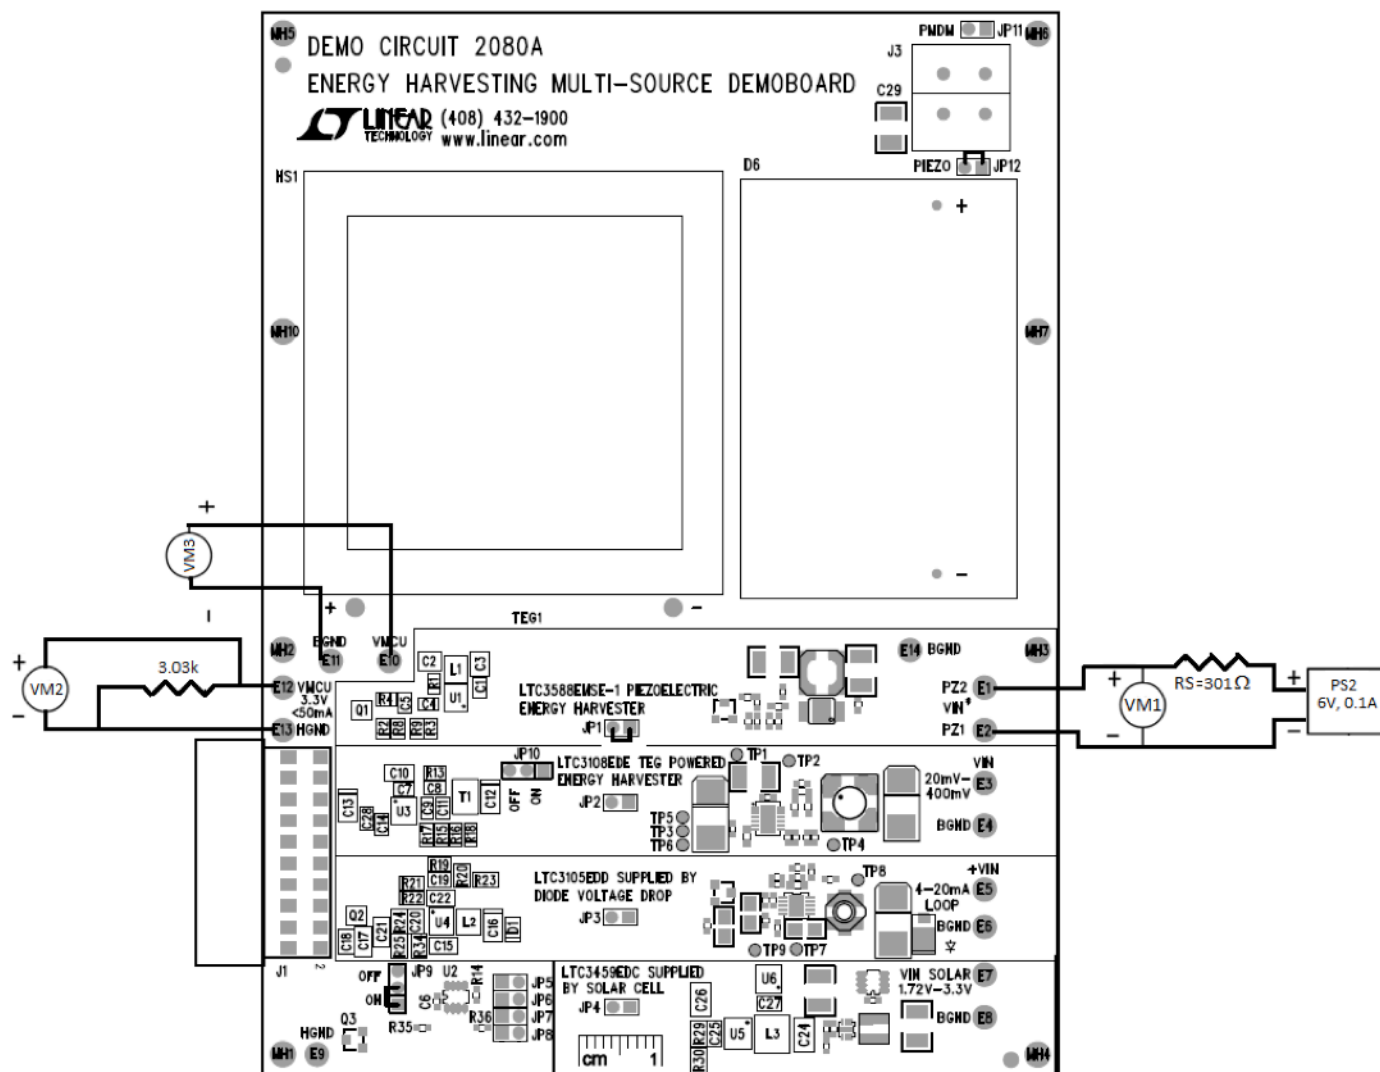

Figure 3. Piezoelectric Circuitry Test Setup. Proper Measurement Equipment Setup for DC2080A Piezoelectric Circuit Testing
10. Set PS2 equal to 6.0V. Reconfigure the test equipment as shown in Figure 3.